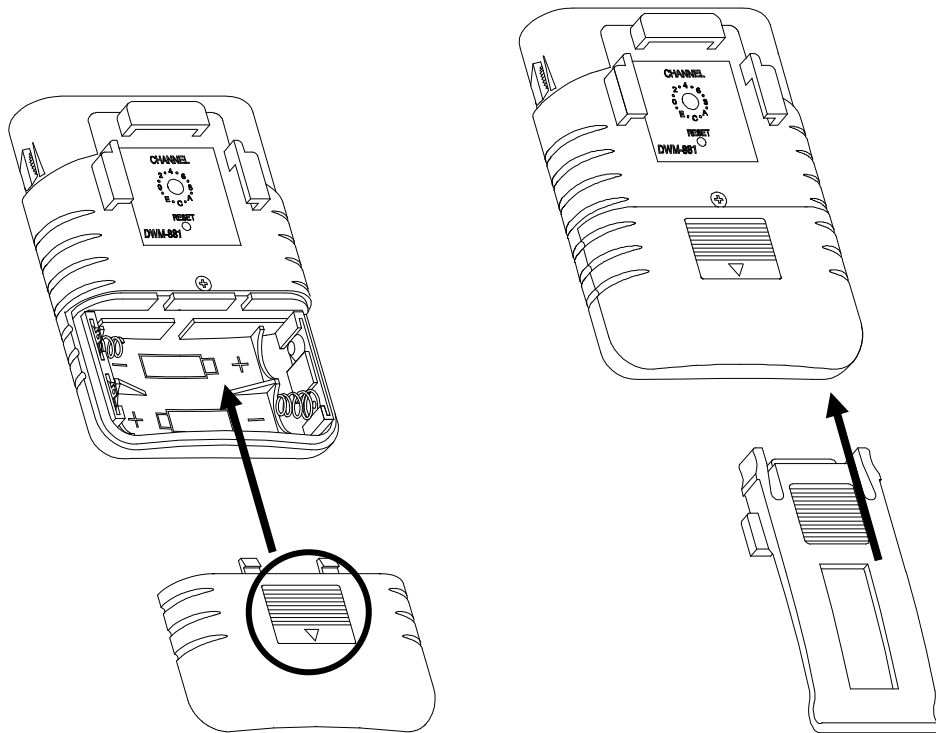

Figure 5.6
5.6.5 Close the Battery Cover. As shown in figure 5.6, press on where circle 3 indicates and pushes upward in the direction of the arrow till the upper edge of the Cover touches the body casing.